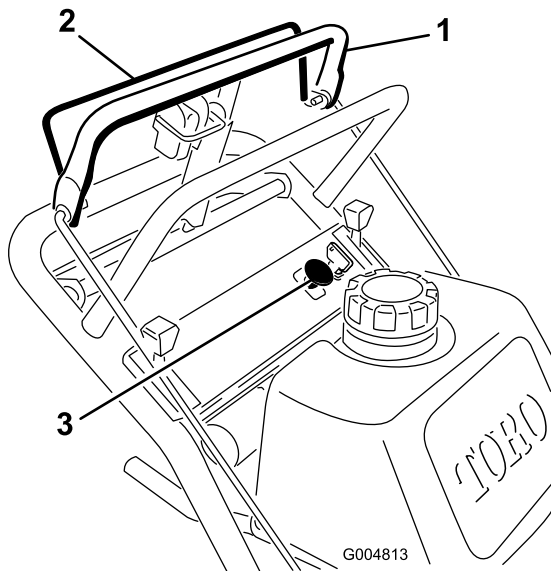

Figure 9
1. Release the upper control bar to stop the machine (Figure 9).
2. To engage the blades, squeeze the blade control bail against the upper control bar (Figure 9).
Release the blade control bail to disengage the blades (Figure 9).